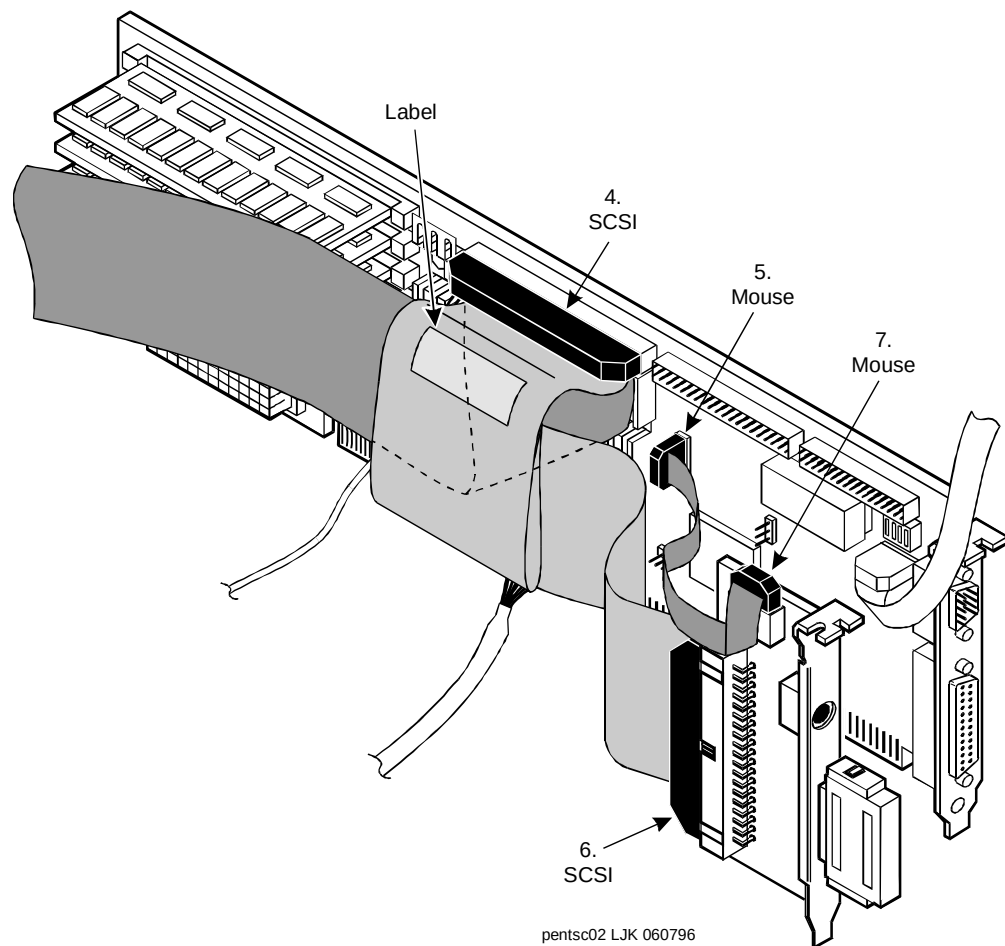

Figure 5-70. Attaching Cables to the P5 120 MHz CPU Circuit Card - Part 2
10. Attach the SCSI cable to the SCSI controller pins on the P5 120 MHz CPU circuit card (Figure 5-70).
The SCSI cable has a label that contains the following message (Figure 5-70):
The SCSI cable will be routed over top of the disk activity cable (Figure 5-70).
11. Attach the mouse cable to the P5 120 MHz CPU circuit card (Figure 5-70).
12. Attach the SCSI cable to the external SCSI connector circuit card (Figure 5-70).